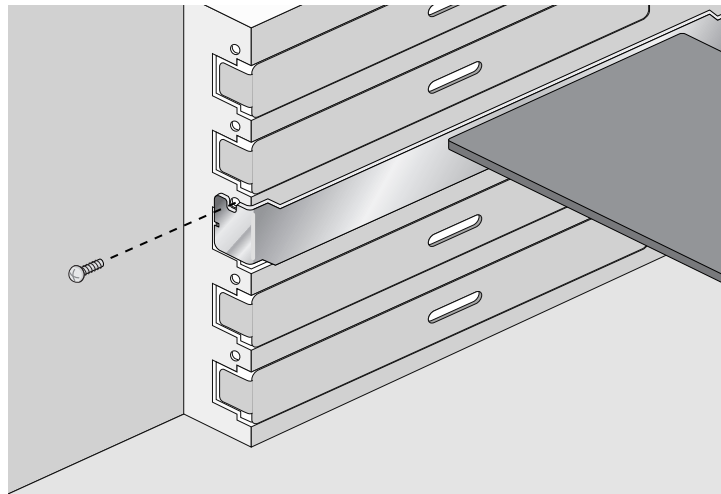

Figure 11. Securing the Adapter Card
6. Secure the network adapter card to the chassis with a Phillips-head screw (not provided) as shown in Figure 11.